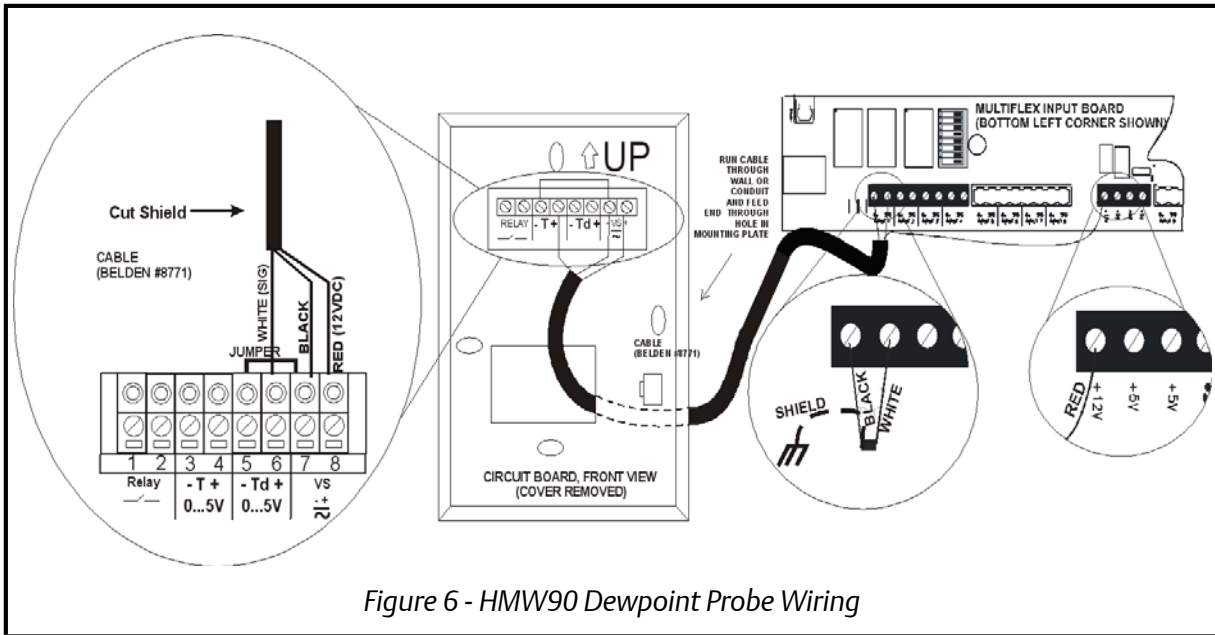

Figure 6 - HMW90 Dewpoint Probe Wiring
To wire the dewpoint probe to a MultiFlex or 16AI input point, use Belden #8771 three-conductor shielded 22AWG wire (or equivalent). *Figure 6* shows the connection point on the dewpoint probe and where to connect the wires to the probe as well as the MultiFlex input point. The probe is powered by the +12VDC power supply terminal on the MultiFlex or 16AI input boards. Connect the SHIELD wire on the MultiFlex end of the cable to a separate earth ground near the board.
*If you are replacing a faulty HMW93 dewpoint probe, it is recommended that the mounting plate be replaced. The wiring of the HMW90 dewpoint probe signal wire has been moved. The white signal wire will now connect to terminal 6, and the jumper wire will now connect from terminal 7 to terminal 5 on the back mounting plate (see Figure 6).*